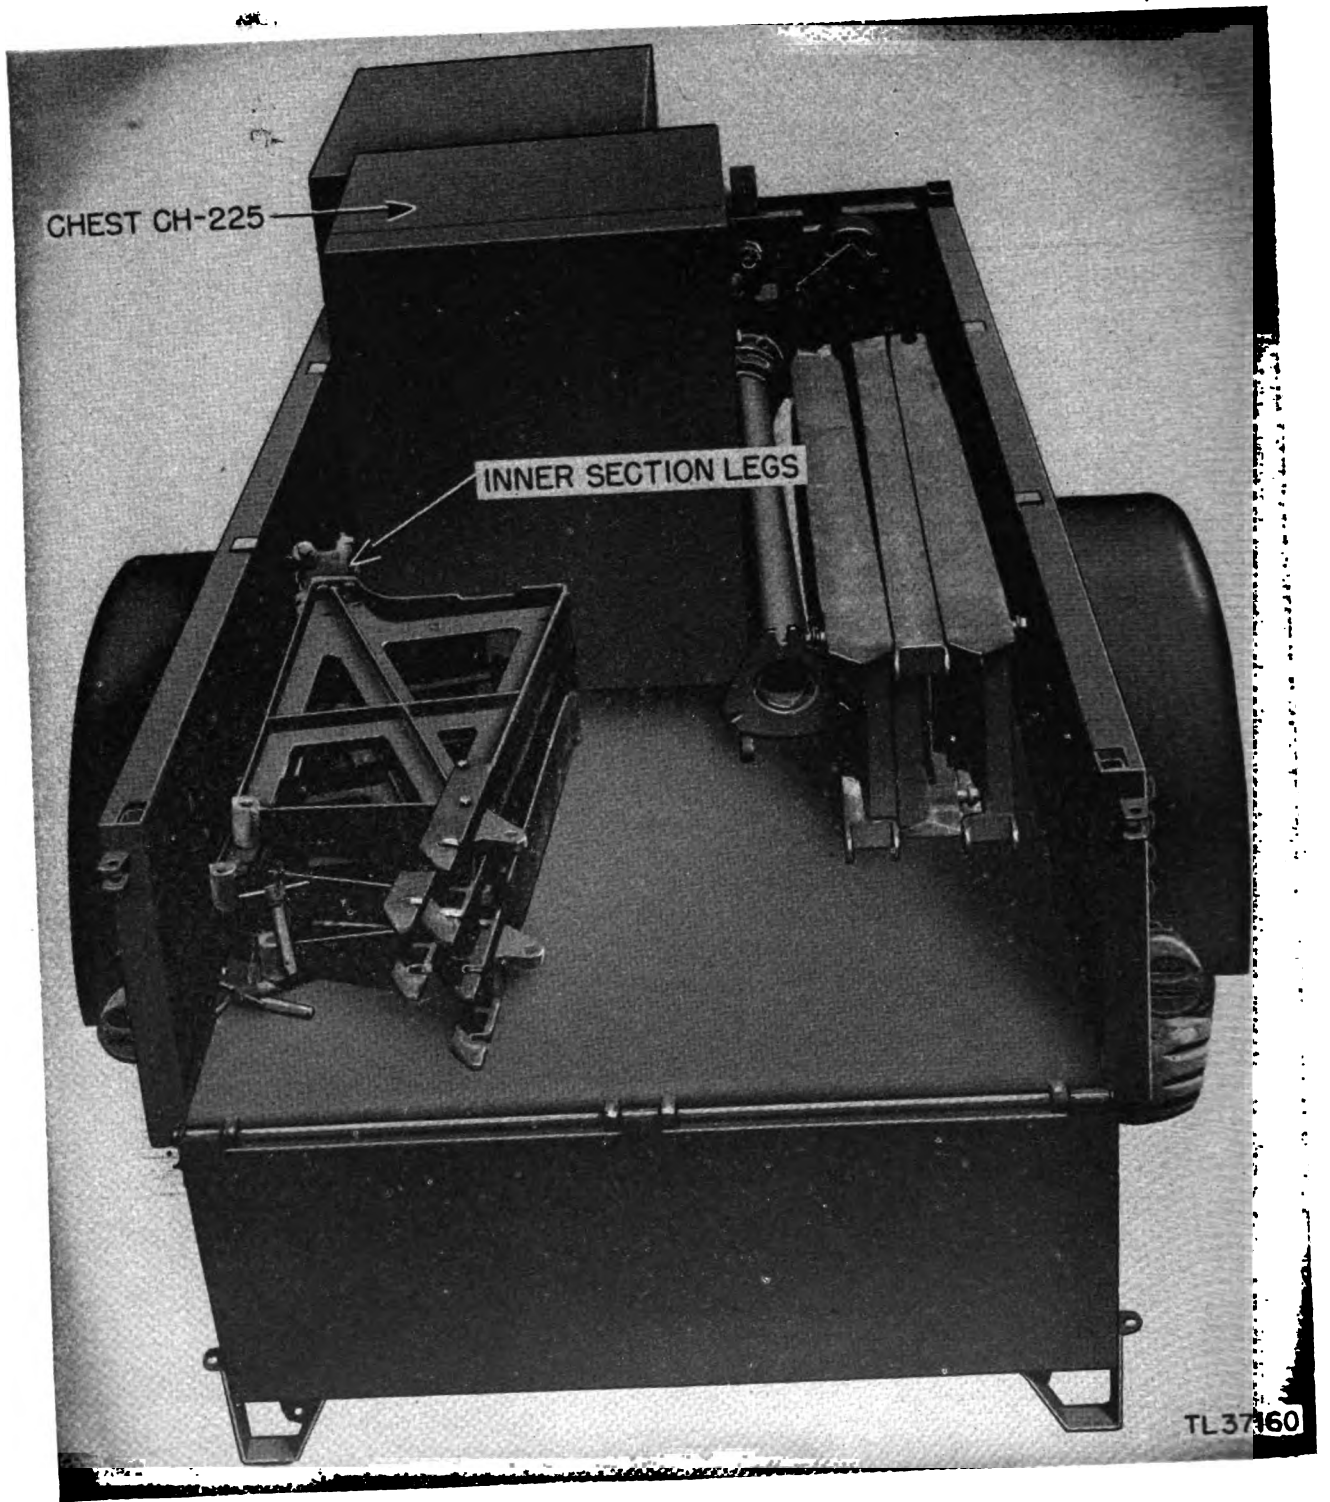

Figure 115. Chest CH-225 in place.
g. Place Chest CH-225 on the two wooden blocks G (fig. 115), with the carrying handles toward the sides of the trailer and the cover toward the rear. Place Chest CH-225 solidly against Chest CH-222 and close to the upper column, leaving space between the chest and trailer side for the inner section of the tower legs.
h. Place the three inner sections of the tower legs on the rear left-hand side of the trailer in front of Chest CH-225. The section with the collar and eccentric bolts attached should be placed on top of the other two sections, with the collar end fitted into the space between the Chest CH-225 and the side of the trailer. Stagger the sections, as shown in figure 115, in order that they will be firmly seated.